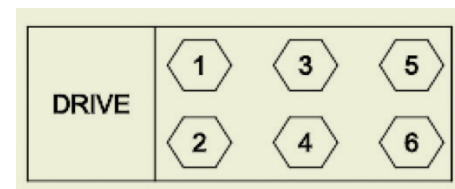

Figure 14
3. Torque bolts (**Item 51**) to 140 FT-LBS [190 N-M] using the numbered pattern above. (See **Figure 14**)